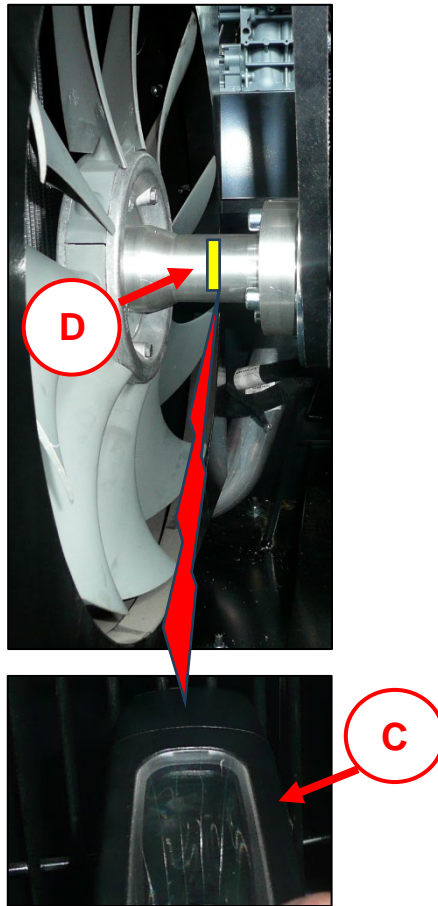

Figure 11.1-2 Measurement of the rotation speed
8. Measure with a optical tachometer (Letter C in Figure 11.1-2) the rotation speed (in revolutions / minute) of the motor hub focusing the optical beam on the speedometer notch Reflective (Letter D in Figure 11.1-2);